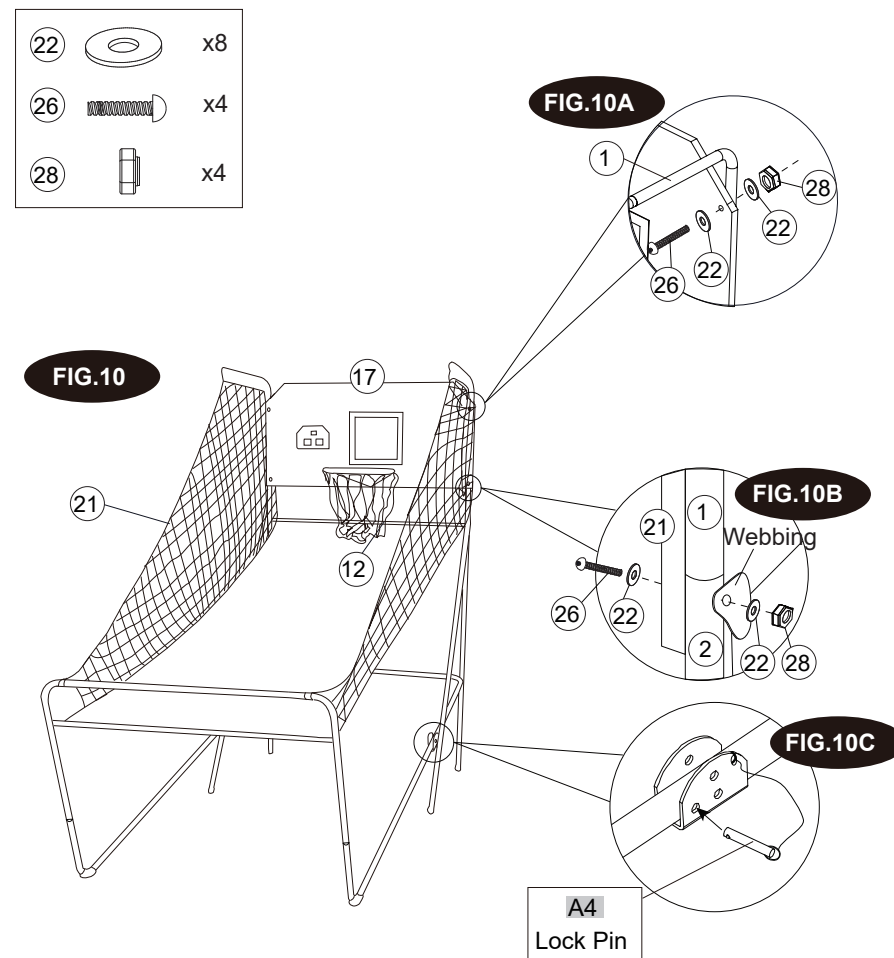

FIG.11
17. Connect the Sensor Wire from Switch Sensor (#15) to the Electronic Scorer (#14) as shown in FIG.11. Connect the Control Wire to the Electronic Scorer (#14) as shown in FIG.11 and 11A.